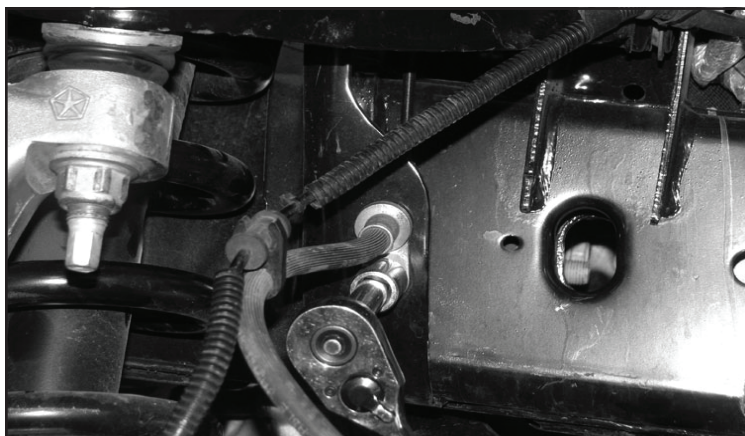

FIGURE 1 - STEP 2
2. Remove bolt from the brake line, save for re-installation. **SEE FIGURE 1**